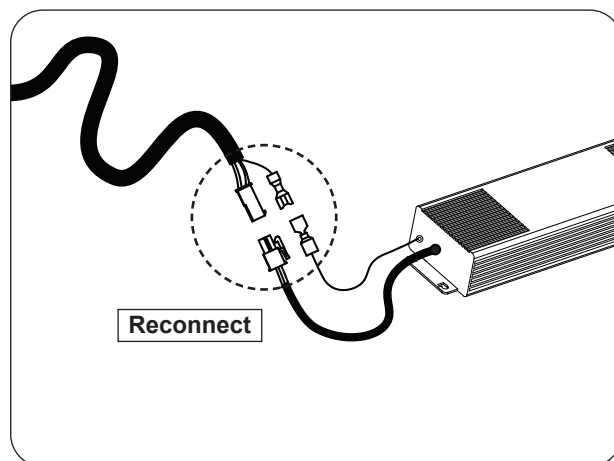

Fig. 29-2 Reconnect harness
4. Reconnect the harness to the power supply (see Fig. 29-2).